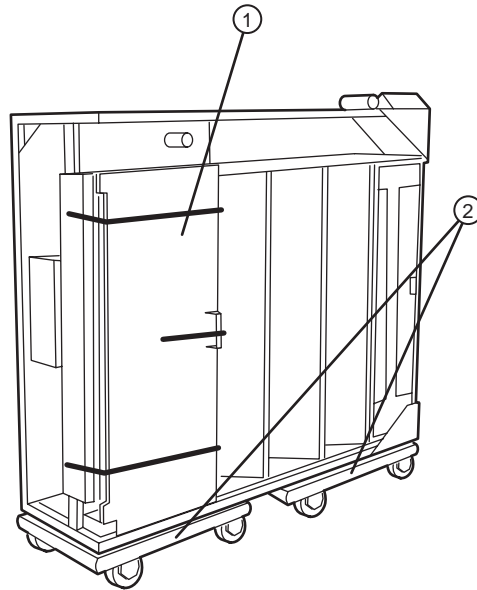

Figure 1-9 Engine assembly loaded on dollies.
①—Bottom of crate. ②—Shipping standoff (1 of 4).
10. Position two (2) dollies against the bottom of the crate. Block the wheels then tip the OLP engine onto its side and lift onto the dollies. Refer to Figure 1-9.